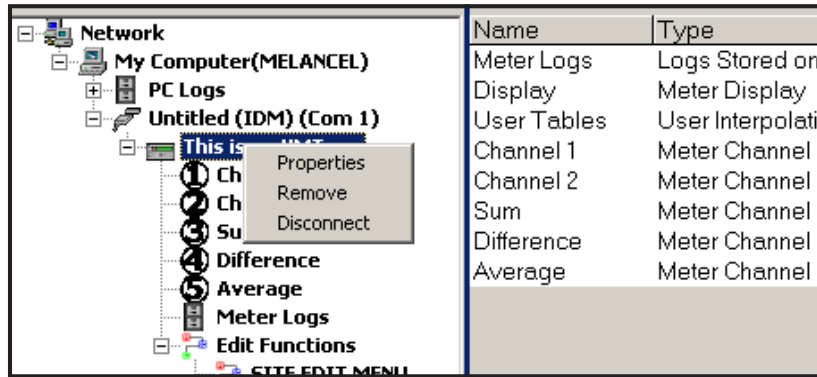

Figure 5: The *Properties* Option in the *New Meter Browser*
2. Right-click on the highlighted XGS868i and click on the *Properties* option, as shown in Figure 5.